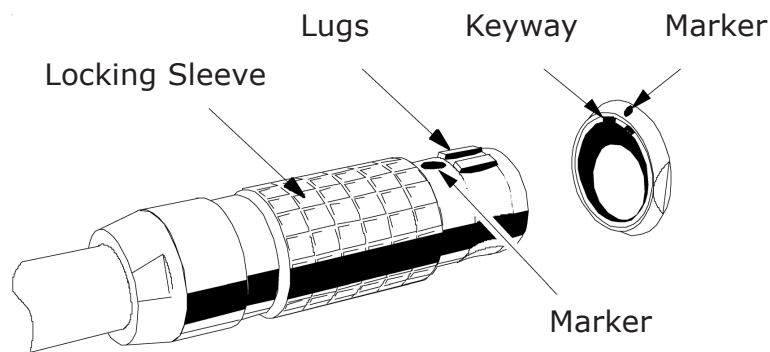

Fig. 11 - Connection Of The Pre-wired Cable To The Thermometer
- 1) Refer to Fig. 11. Align the red marker near the lugs of the pre-wired plug with the red marker above the keyway in the socket on the thermometer.